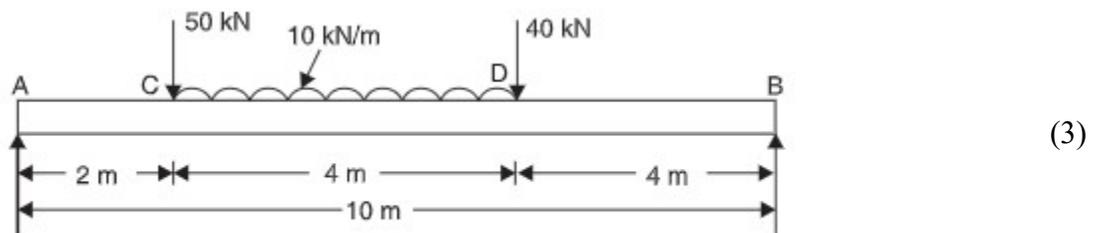

Figure 2
- B) A simply supported beam of length 10m, carries the uniformly distributed load and two point loads as shown in the figure 2. Draw the S.F. and B.M. diagram for the beam also find the maximum bending moment.